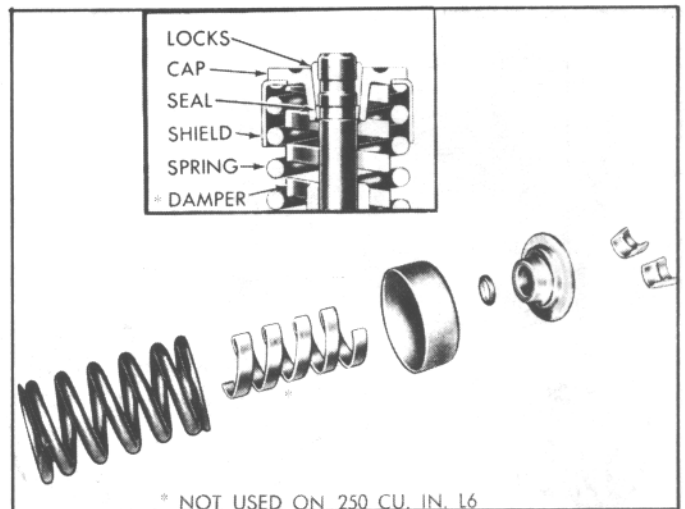

Fig. 108. Valve Spring Installation
- (a) Set the valve spring shim, valve spring (with damper if used), valve shield and cap or rotator in place (Fig. 108).